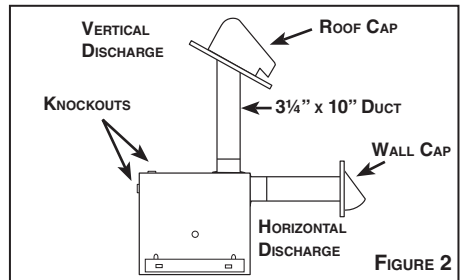

FIGURE 2
2. Refer to Figure 2. Remove one of the wiring knockouts from the housing.